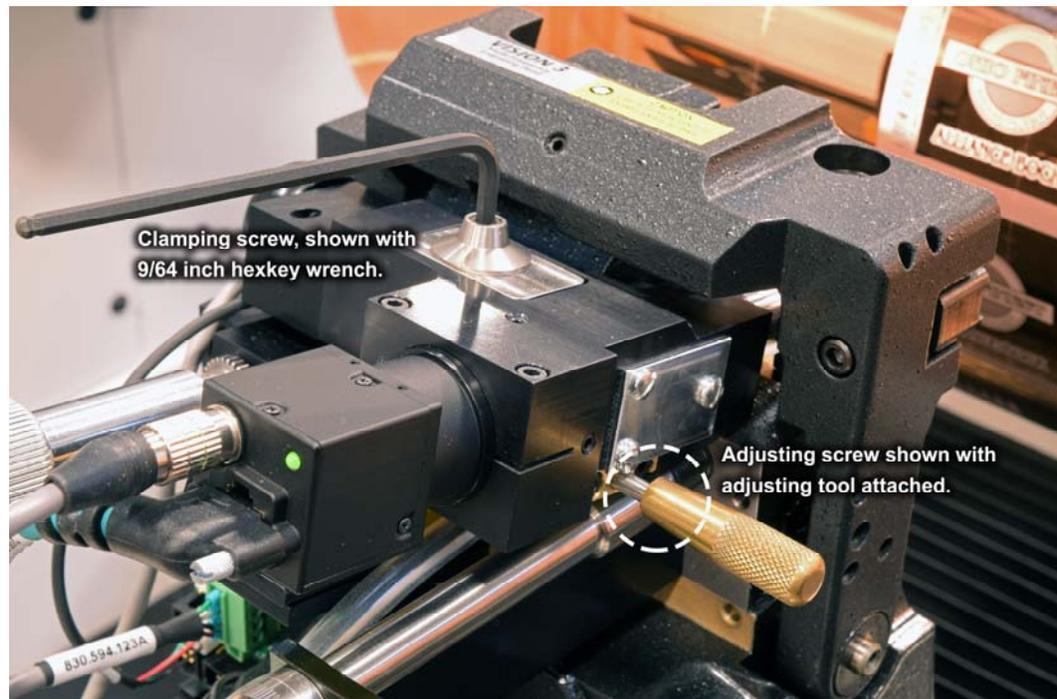

Figure 3 Adjusting and locking screws
- Slightly loosen the large shoulder screw on the top of the camera block using a 9/64" hexkey. This screw clamps the camera to prevent movement. See Figure 3.
- Turn the adjusting screw on the right side of the camera block to shift the image left or right. Use the adjusting tool (D370029-01) from the Prism tool kit, or a 9/64" open-end wrench, for adjusting the screw. The location is shown in Figure 3.